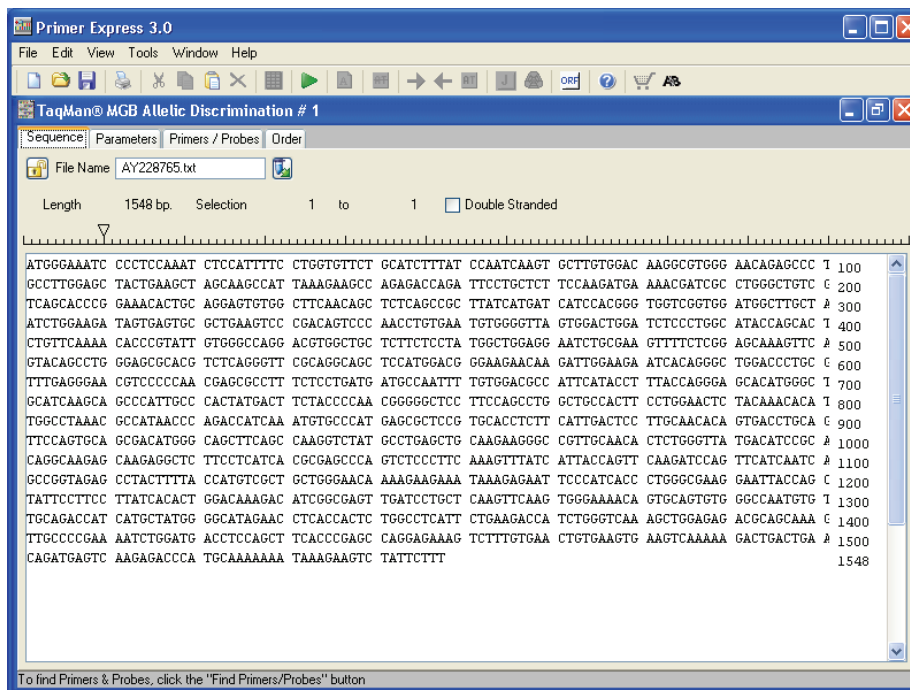

Figure 9. Sequence tab
3. Click **Add**. Primer Express software loads the nucleotide sequence from the file and displays the sense strand in the Sequence tab (see “Figure 9. Sequence tab” on page 32). The sequence serves as the starting point for primer and probe design.